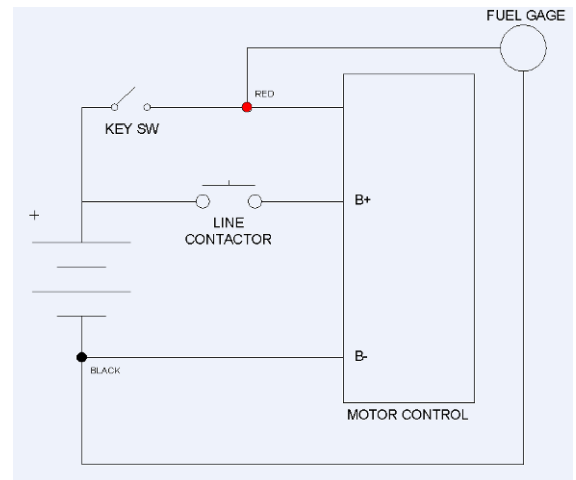

Figure 1
5. The red ring terminal should be connected to the open side of the key switch, tow/run switch, battery switch, etc. See example in the basic wiring diagram, **Figure 1**.